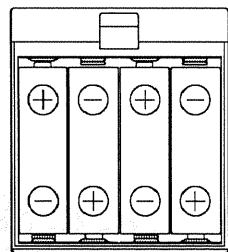

Fig.3
4. Insert fresh batteries as indicated on the battery box. (Fig.3)